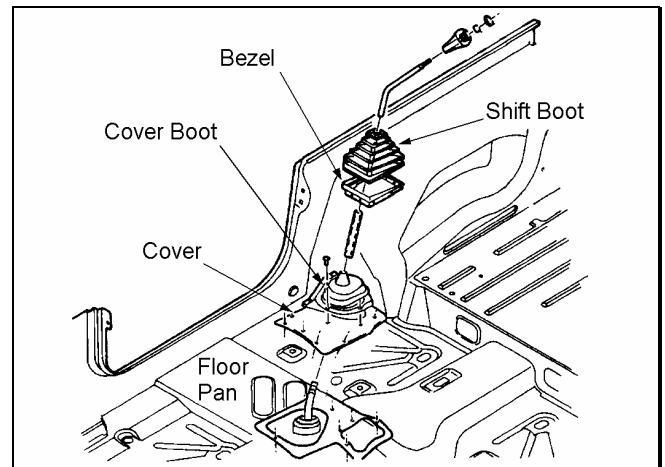

Figure 15
2. ☐ Pry up the shift boot and bezel from the floor console. See figure 15.